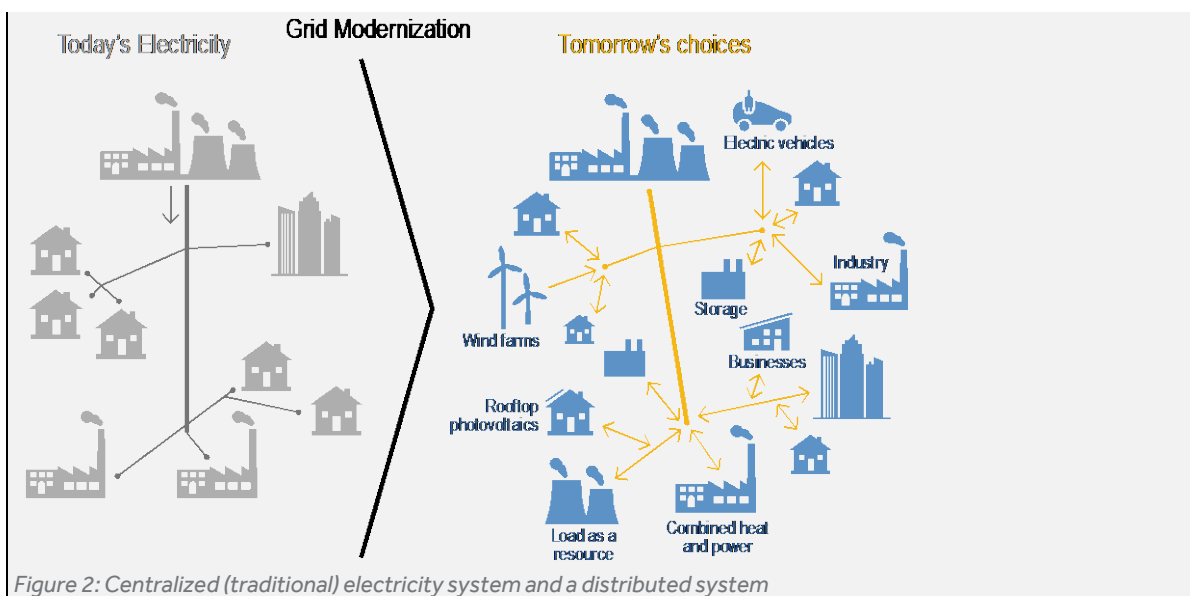

Figure 2: Centralized (traditional) electricity system and a distributed system
- Very large, utility-scale solar PV projects (“solar farms”) are typically connected to the transmission grid like traditional fossil-fuel generation. (See Figure 2 for grid definitions). Slightly smaller installations, up to 5 MW in Alberta, can be connected directly to the distribution grid such as the 2<W Green Acres solar farm. In both cases all electricity generated is sent directly onto the electricity grid.